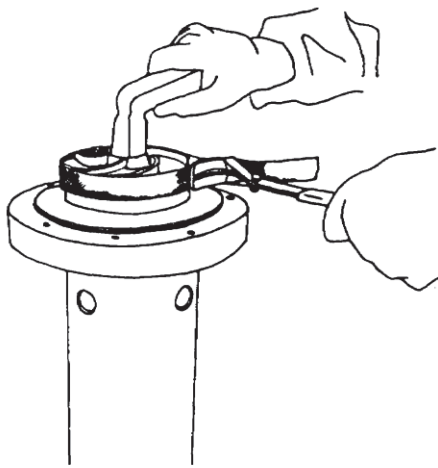
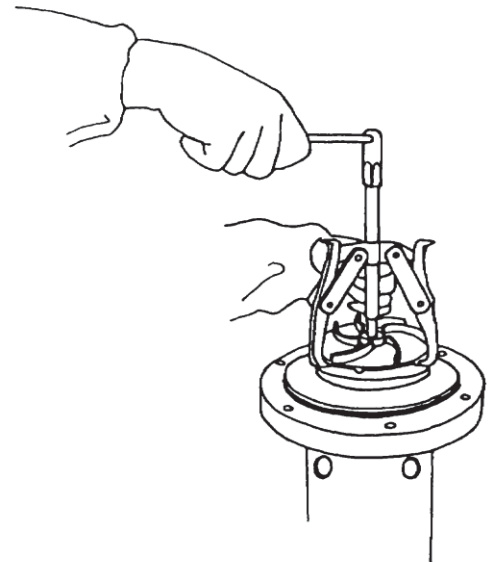

FIG.3
FIG.4
- 4) Disassemble the impeller (pos. 21) (after having locked it with a band wrench) by using a pipe wrench of 22 mm (for some impellers you should use a fixed wrench of 32 mm), unscrew (clockwise thread) the locking nut (pos. 2) (see fig. 3) and remove it from the shaft with the help of an extractor (fig. 4).
- 5) Remove the motor (pos. 1) after having removed the screws (pos. 2), which fix it on the aluminium spacer